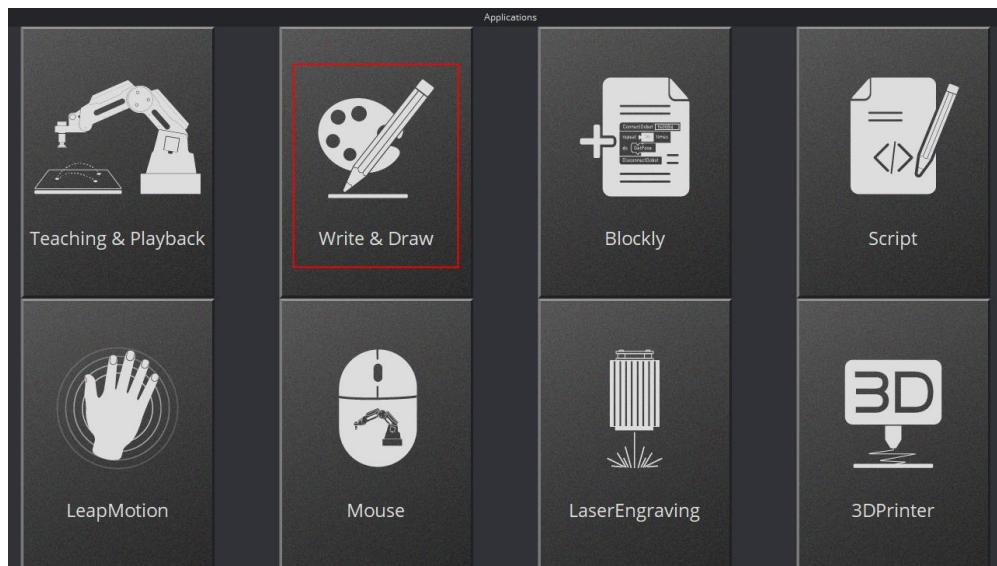

Figure 5.56 Click Write & Draw
**Step 3** Click **Write & Draw** module function, as shown in Figure 5.56.